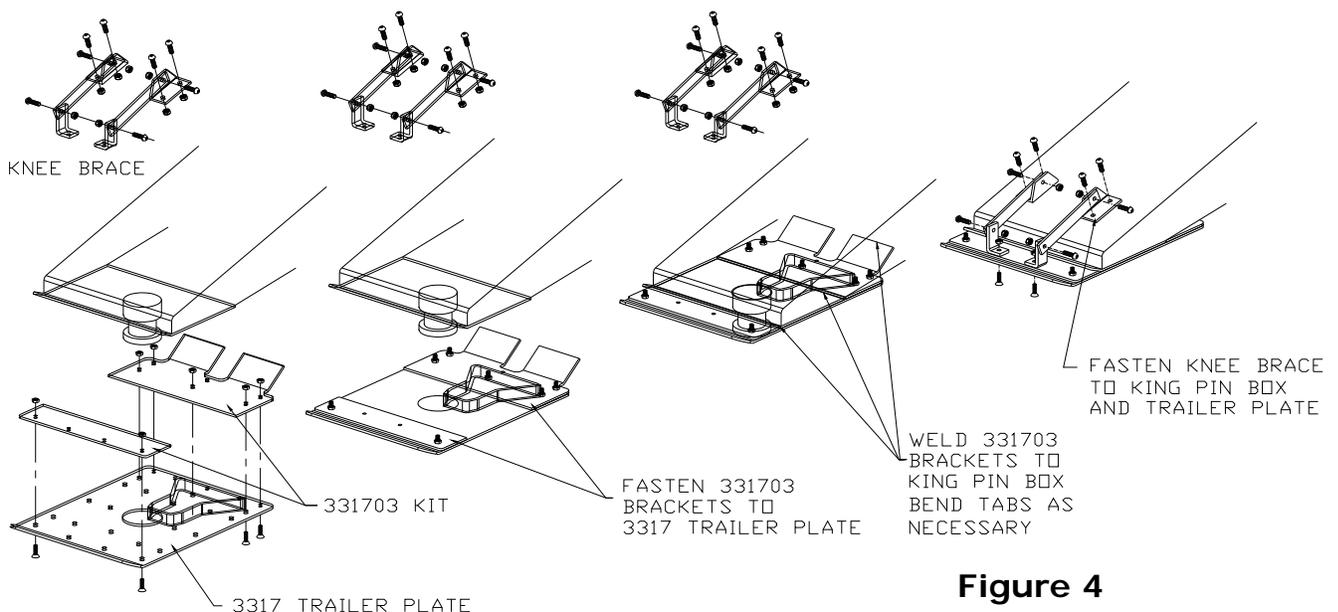

Figure 4
FOR KING PIN BOXES THAT ARE SHORTER FRONT TO BACK: (Figure 4)
1. Place the Capture Plate {J2} over the king pin, with the guide wedge towards the rear of the trailer (wedge facing down), and measure the distance from the front and rear of the king pin box to the respective edges of the Capture Plate {J2} (to the bend of the Capture Plate {J2} in the front). Referring to Figure 4, fashion two plates, 3/16" to 1/4" thick, that will cover the holes of the Capture Plate {J2} showing in front and rear of the king pin box.